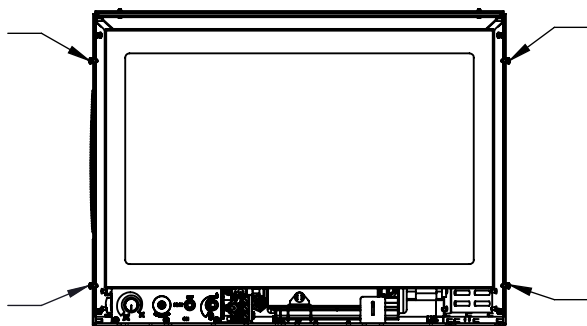

Figure 38: Bushing/Screw Installation Locations.
1. Install the mounting bushings and screws for the trimable panel onto the E20 unit using a T-20 Torx screwdriver. See Figures 38 and 39 for the installation locations.
2. In the case of the 3-Sided Panel, hang the surround on the appropriate hooks depending on the optional surround that will be used with the trimable panel. See Figures 38 and 39.
3. In the case of the 4-Sided Panel, screw the surround onto the unit as shown in Figures 38 and 40.